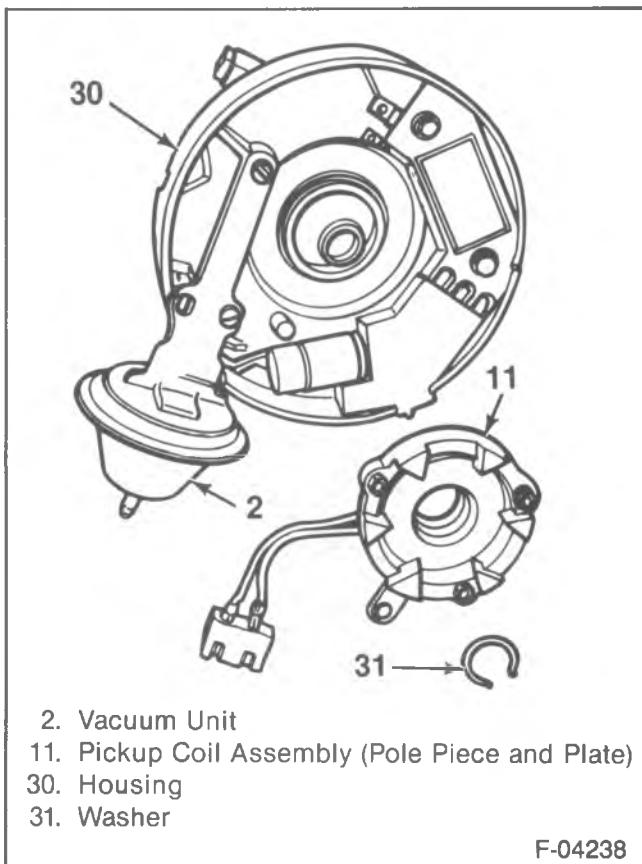

Figure 51—Pickup Coil Removed
Pickup Coil Assembly (Figure 51)
- Secure the assembly with the C-washer (figure 51).